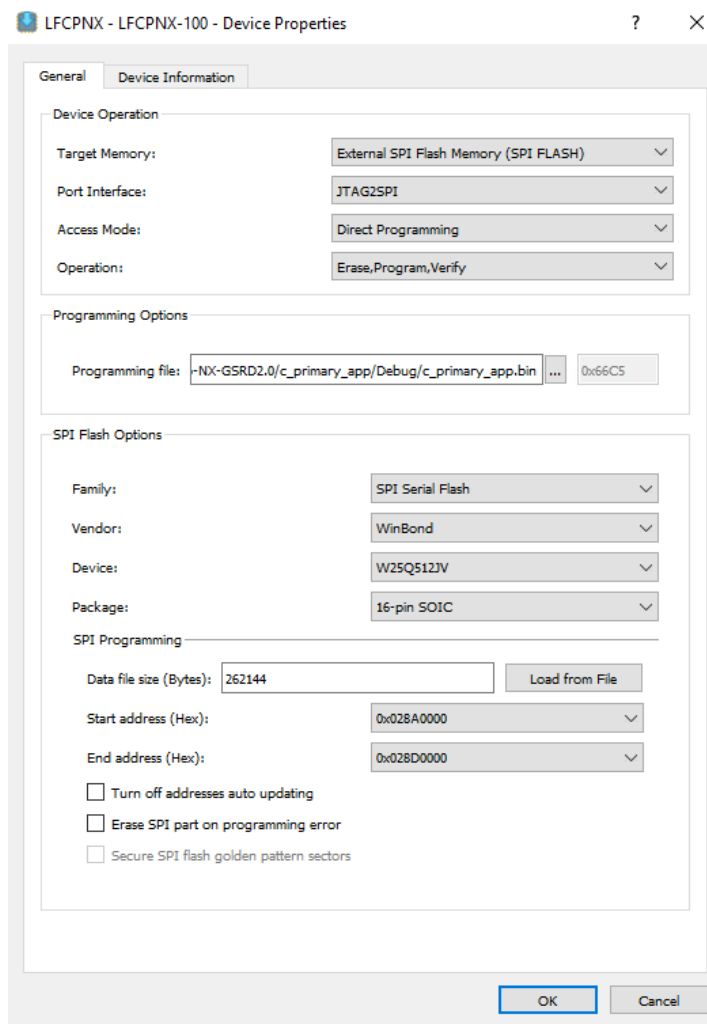

Figure 7.42. Device Properties Window for Primary App Binary without CRC
6. To program the **c_primary_app.bin** software file into the SPI Flash, Follow the settings as shown in Figure 7.42.